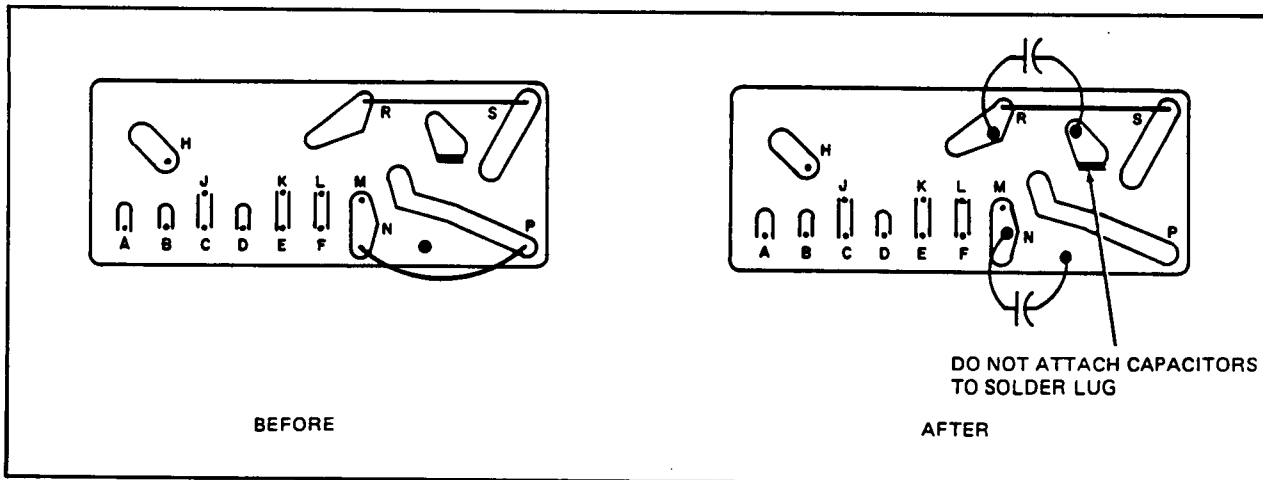

Figure 4-1. Pictorial Representation.
2. Add capacitors as shown in Figures 4-1 and 4-2.